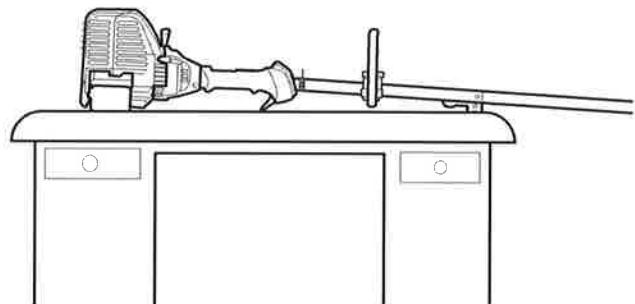

Fig. 26
2. Set the unit on a flat, level surface, such as a workbench or table. The cutting head shield should hang over the edge so that the engine is level (Fig. 26).